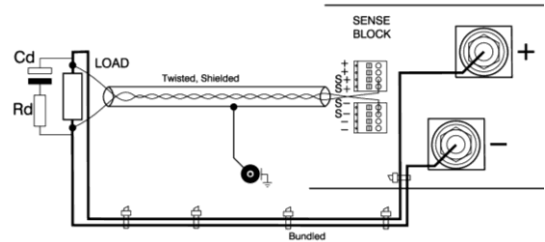

Figure 7.5: Remote sensing with shielded twisted wires and the power cables bundled close together to minimize inductance.
- The leads are only thin measuring wires but always must be shielded. To prevent interference, it is advisable to twist the leads. See Figure 7.5.